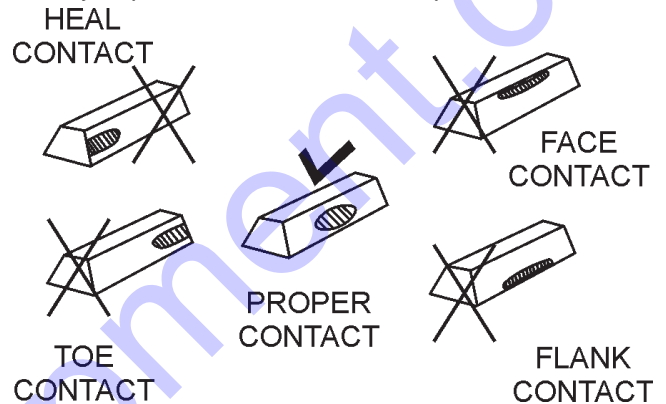

Figure 31. Gear Teeth Alignment
4. If gear teeth are not contacting properly (Figure 31), adjust pillow block to correct the problem.